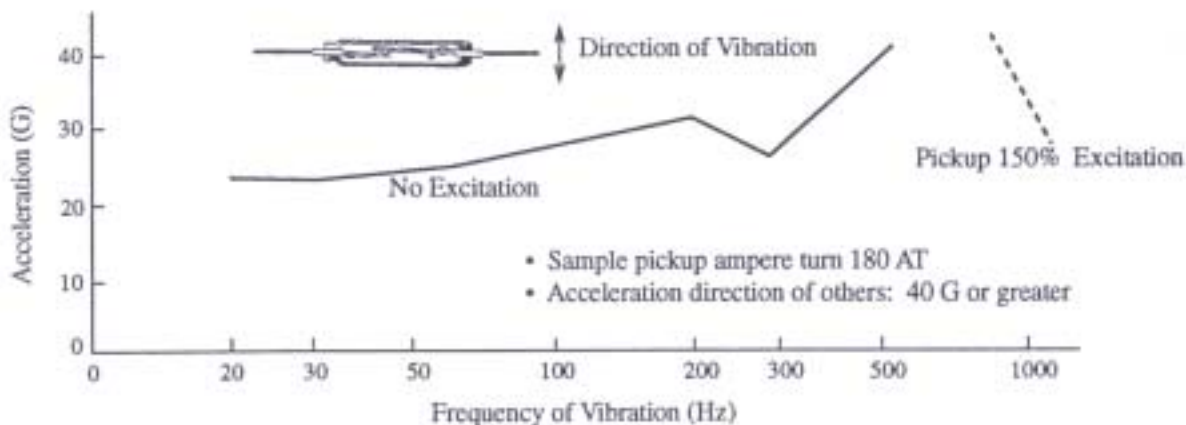

Fig. 14 Vibration Resistance Test
- Vibration Direction : As shown in Fig. 14
Figure 14 shows the relationship of vibration frequency and malfunction acceleration. The vibration resistance depends on the direction of vibration and contact action, as well as whether the contacts are opened or closed. It is weakest when the direction of contact action and vibration coincide in any case.